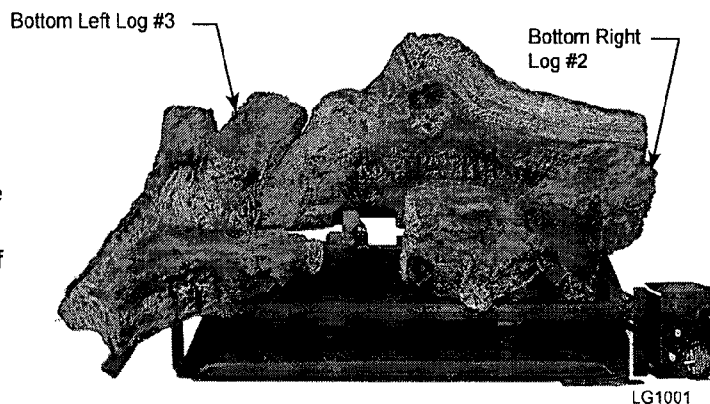

Figure 41
2. Placed bottom right log (#2) on right side of grate. *Figure 41*
3. Place bottom left log (#3) on left side of grate. *Figure 41*